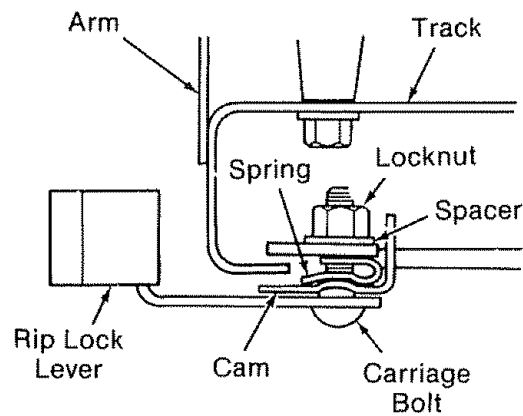

Fig. 151 - Location of Hex Lock Nut
1. Hold the *rip lock* in the unlocked position and with a 7/16 inch wrench tighten the 1/4-20 hex lock nut 1/4 turn. (Figure 151)